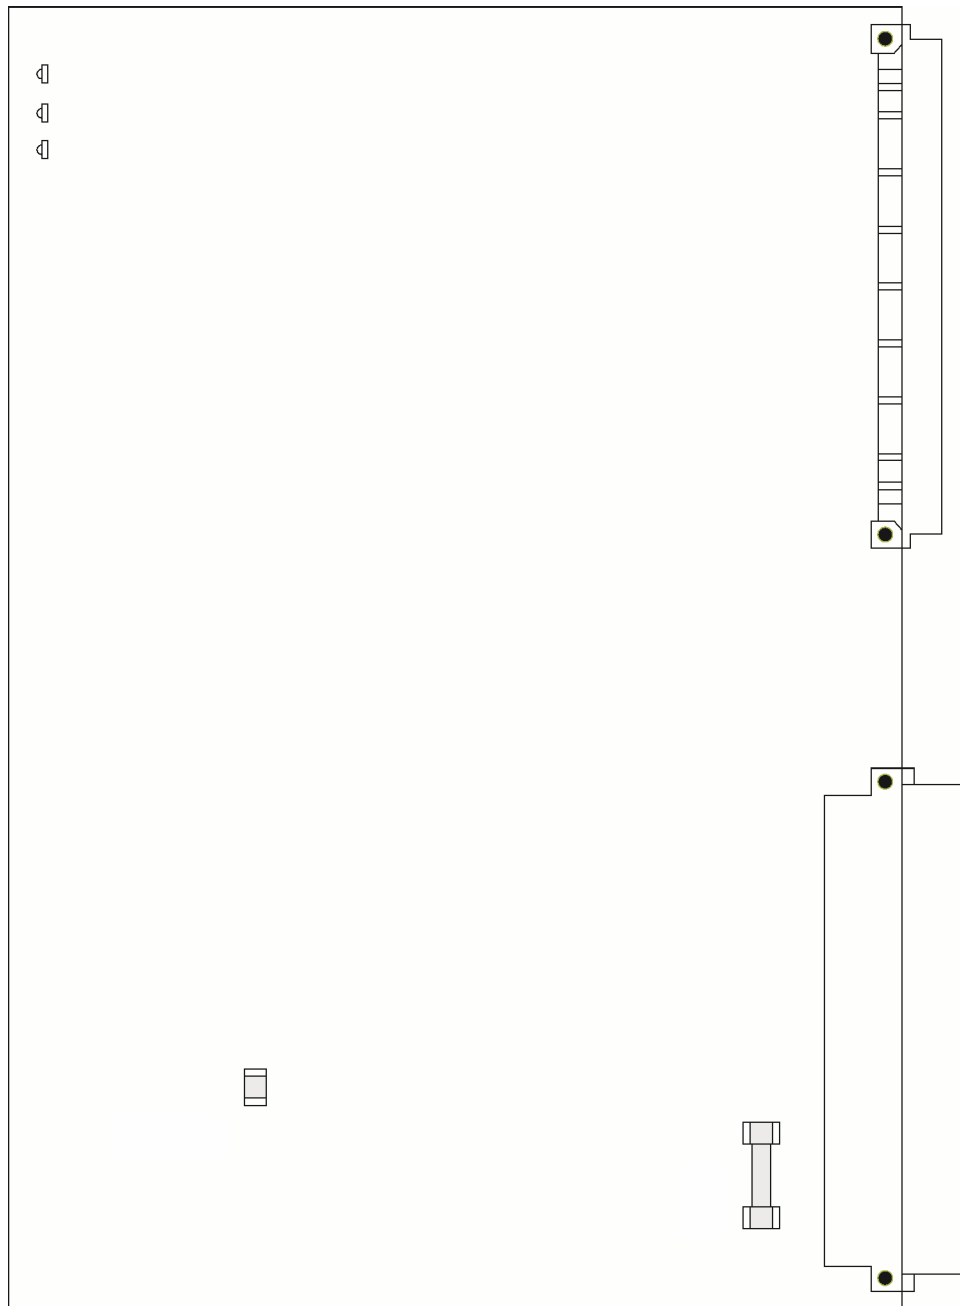

Figure 8-8 Location of the fine-wire fuses on the power supply module (SV) of the central unit release 7SS522../KK
The ratings of the required fuses can be found for the central unit in Figure 8-8, page 338, and for the bay units in Figure A-11, page 389.
- ❑ Replace the fine-wire fuse. The location of the fine-wire fuses can be seen in Figure 8-8, page 338.
- ❑ After fastening the front panel, switch the device on. If the auxiliary voltage failure continues to be indicated, there must be a failure or short-circuit in the internal power supply. The power supply module (SV) should be sent to the factory.